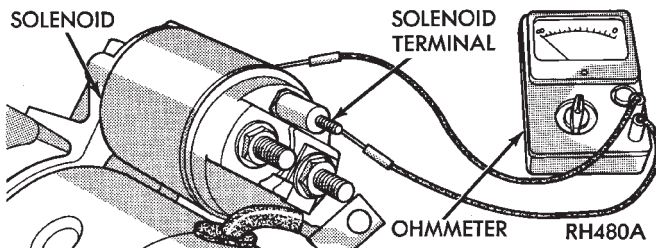

Fig. 8 Continuity Test Between Solenoid Terminal and Solenoid Case - Typical
(4) Check for continuity between the solenoid terminal and the solenoid case (Fig. 8). There should be continuity. If not OK, replace the faulty starter motor assembly.